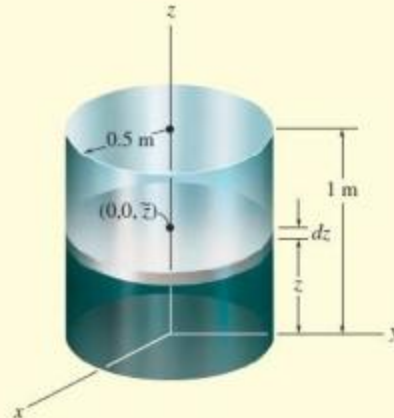

Fig. 9-15
Determine the location of the center of mass of the cylinder shown in Fig. 9-15 if its density varies directly with the distance from its base, i.e.,  $\rho = 200z \text{ kg/m}^3$ .
**Differential Element.** A disk element of radius 0.5 m and thickness  $dz$  is chosen for integration, Fig. 9-15, since the *density of the entire element is constant* for a given value of  $z$ . The element is located along the  $z$  axis at the *arbitrary point*  $(0, 0, z)$ .